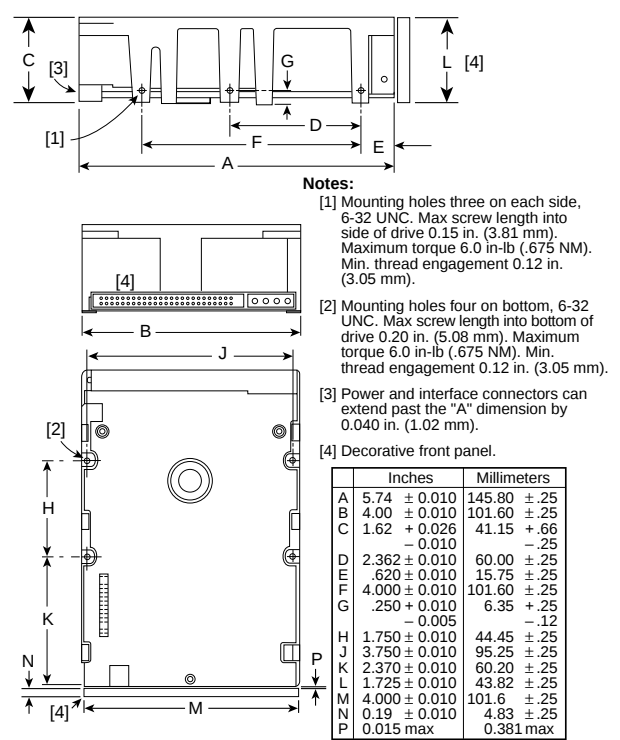

Figure 4. Hawk 4 family mounting dimensions (50 pin SCSI I/O connector)
- Mount to host system chassis using four 6-32 UNC screws. Three mounting holes are in each side and four in the bottom of the drive. See Figure 4. The maximum length that the screws should extend into the side chassis mounting holes is 0.15 inch (3.81 mm), and 0.20 inch (5.1 mm) into bottom holes, measured from the outer surface of the chassis. The minimum thread engagement for all mounting screws is .12 inch (3.05 mm). Tighten the screws evenly to a maximum torque of 6 in-lb (.675 NM). Do not over tighten or force when screw does not seem to screw in easily (threads not correctly engaged).